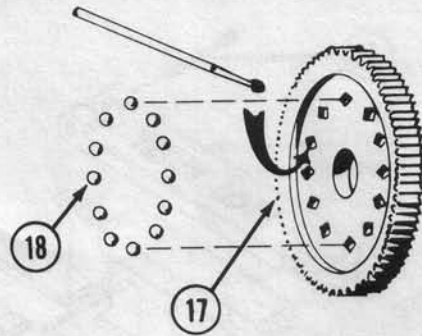

FIG. 9
2. Locate small white grease container (120) and open. Grease only items that are indicated. Keep grease away from teeth of transmission assembly. Locate center differential gear (17) from small bag. Fig 9.
3. Using a tooth pick, carefully dab a very small amount of grease into each hole in the center differential gear (17). Fig 9.
4. Insert 3/32" differential gear ball bearings (18) into holes in center differential gear (17). Fig 9.